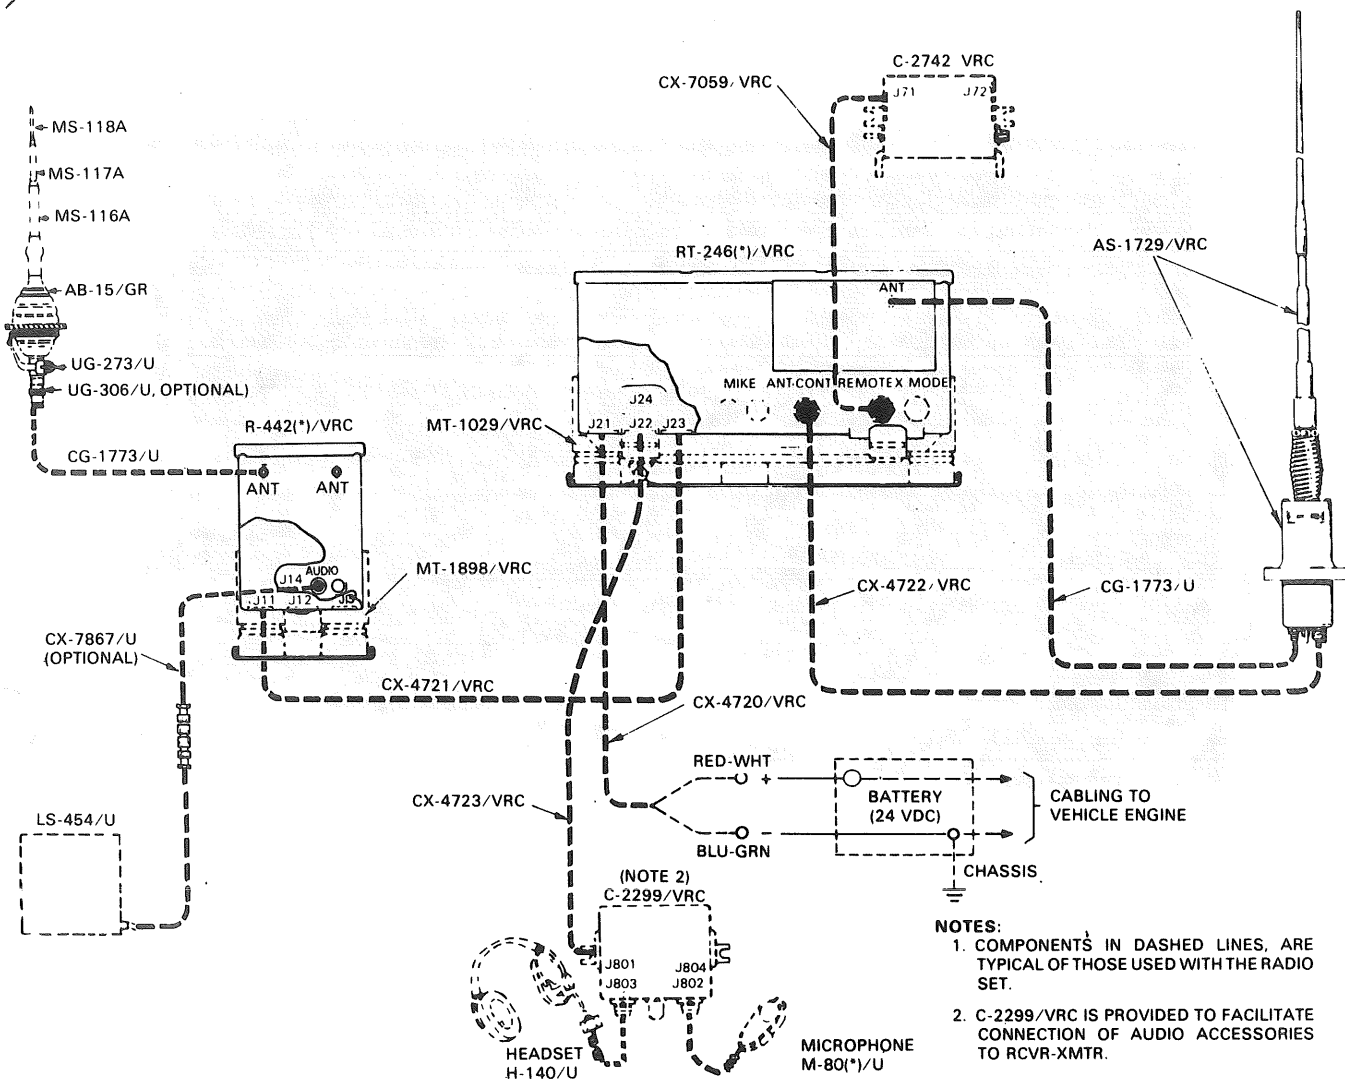

Figure 2. Typical Cabling Diagram for AN/VRC-12.
3. Check cabling of Radio Set AN/VRC-12. (Refer to fig 2, and TM 11-5820-401-12, chap 2, sec II, p 2-28, fig 2-20.)
4. Insure RETRANS switch of Control, Radio Set C-2299/VRC is in the OFF position. (Refer to fig 2, and TM 11-5820-401-12, chap 3, sec II, para 3-12, pp 3-13 and 3-14.)
6. Complete cabling of audio accessories. (Refer to fig 2, and TM 11-5820-401-12, chap 2, sec II, para 2-5b(2) thru (7), para 2-6a (2) thru (4), pp 2-3 and 2-4.)
7. Erect Antenna AS-1729/VRC. (Refer to fig 2, and TM 11-5820-401-12, chap 2, sec II, para 2-7, pp 2-5 thru 2-8.)